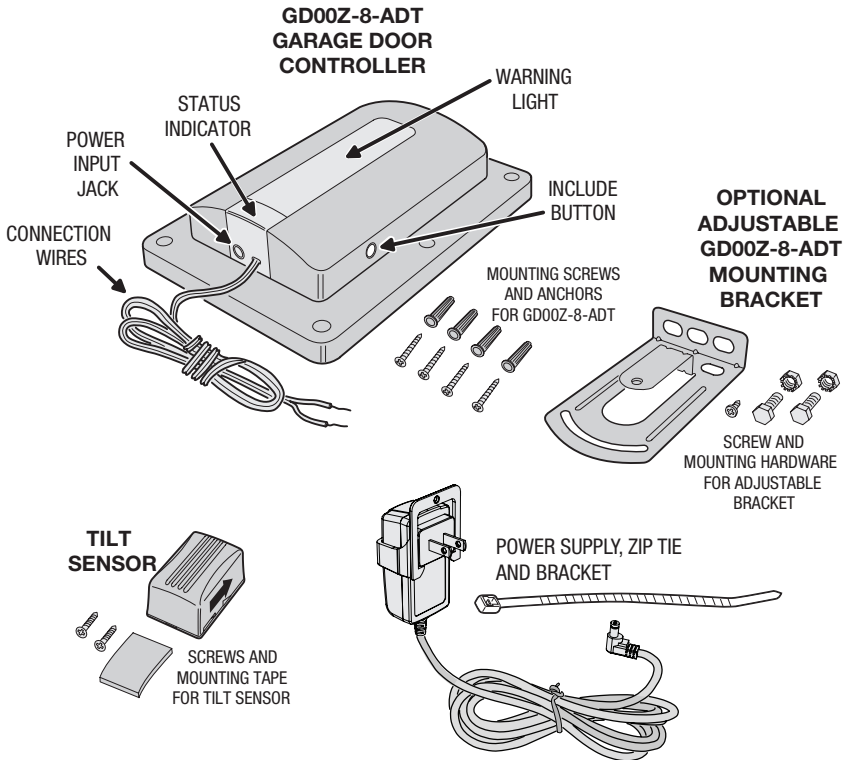

Figure 2. Package Contents
- ✓ **NOTE:** Before enrolling device to any Z-Wave network, or after removing it from any Z-Wave network, it is recommended that the Controller be factory reset. Reset the Controller by pressing the **Include** button 5 times. (Location of Include button is shown in Figure 2 on Page 3). A quick beep followed by a longer beep will indicate proper reset of the GD00Z-8-ADT.
7. Press and hold the Garage Door Controller's include button for 1 second (See page 3, Figure 2 for the location of the include button).